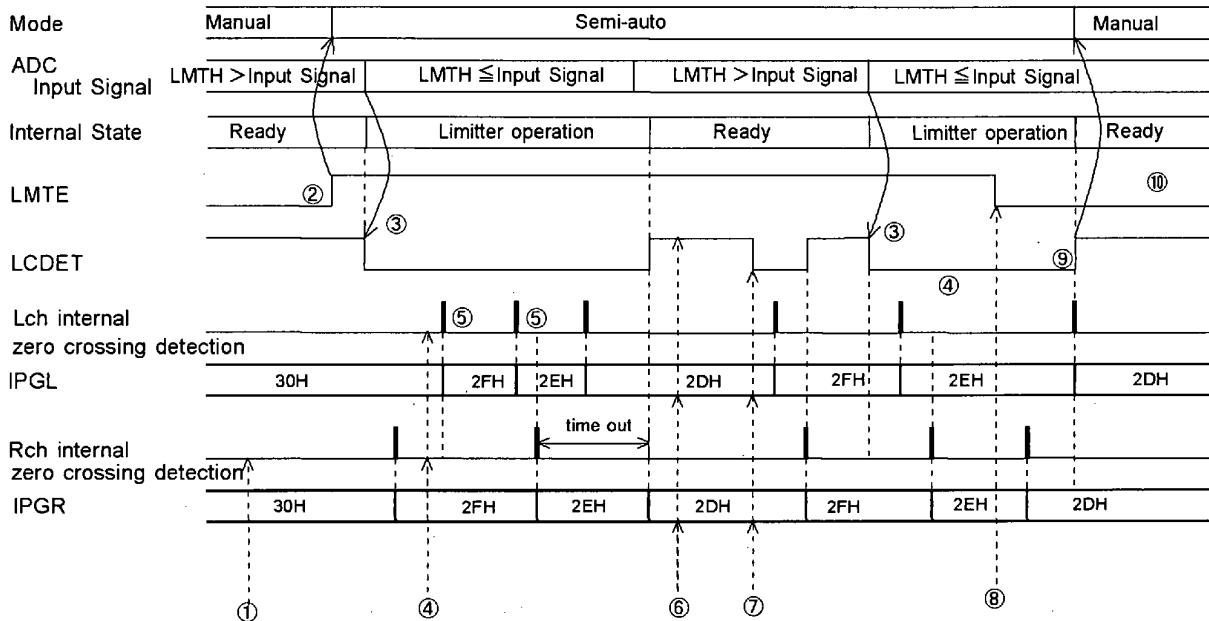

Figure 7 . Control example of semi-auto mode operation(LMAT = 1 step, ZENM=ZELM="1")
- ② WR(LMTE="1", RCVE="0"): After the registers concerned in the auto limitter operation is set up and confirming the zero crossing flags(ZFIPL,ZFIPR)="1", LMTE is set "1".
- ③ As the input signal of ADC exceeds LMTH, the auto limitter operation starts.
- ④ WR(IPGA="31H"): As the auto limitter is in operation, writing by uP is ignored.
- ⑤ After the zero crossing operation of both Lch and Rch is completed, the next operation starts.
- ⑥ RD(LCDET&IPGA): Confirm to complete auto limitter operation and reads the IPGA present value.
- ⑦ WR(IPGA="2FH"): Update IPGA value.
- ⑧ WR(LMTE="0")
- ⑨ In Figure 7 , since "0" is written to LMTE during ATT operation, the operation changes to manual mode after completing ATT operation. After confirming LCDET="1", it is possible to change the each register set-up. If LMTE is set "0" during the auto limitter operation or the update of the IPGA value by uP, LCDET becomes "1" after the max "1" ATT/GAIN operation is completed by internal state.
- ⑩ In this case, the input signal of ADC exceeds LMTH, the auto limitter does not operate because of LMTE="0".